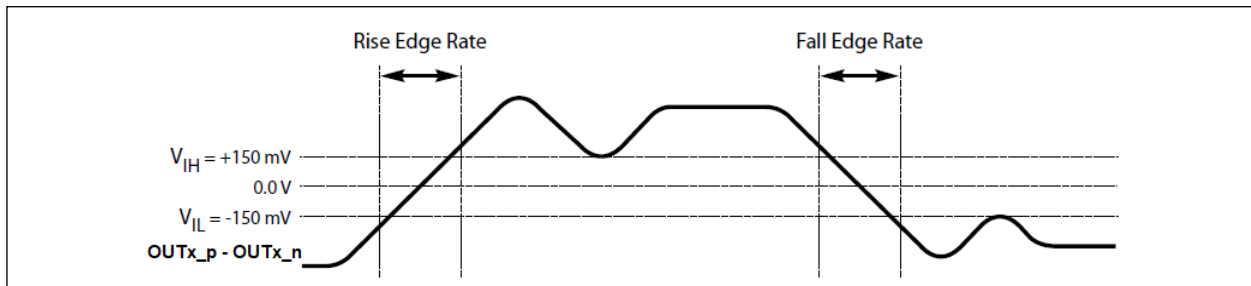

FIGURE 1-5: Differential Measurement Points for Rise and Fall Time.
- 2:** Measured from -150 mV to $+150\text{ mV}$ on the differential waveform (derived from $OUTx_p$ to $OUTx_n$). The signal must be monotonic through the measurement region for rise and fall time. The 300 mV measurement window is centered on the differential zero crossing. See Figure 1-5.